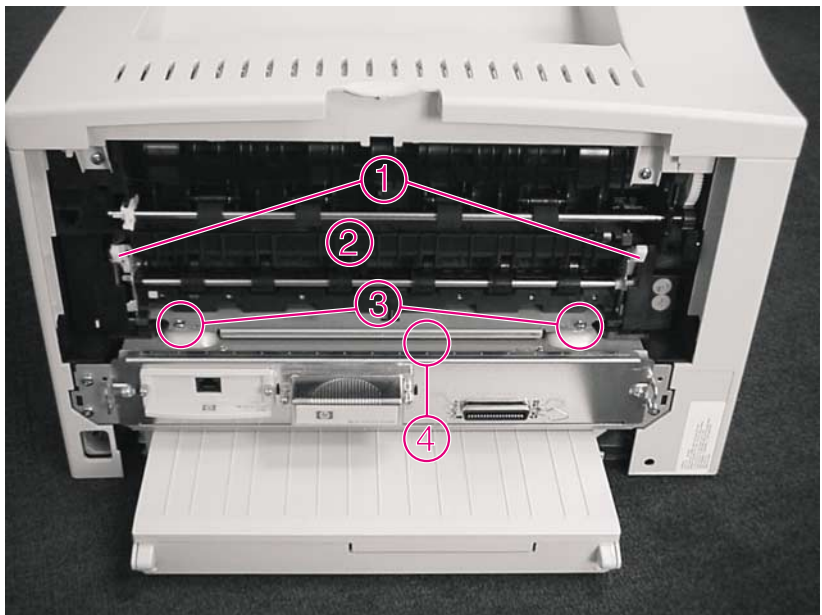

Figure 18 Removing the fuser (rear view of the printer)
- 4 Facing the back of the printer, remove the two machine screws (Figure 18, item 3) holding the fuser (item 2) in the chassis.
- 5 Using a small, flat-blade screw driver, lift at area 4 in Figure 18 to disengage the fuser assembly. Grasp the green handles (item 1) and strongly pull the fuser out of the chassis.